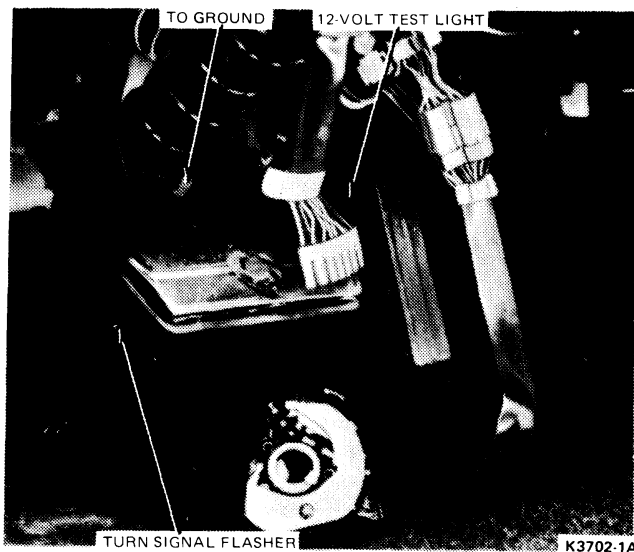

FIG. 2 Turn Signal Flasher Power Test
2. Connect 12-volt test light to a good ground (Fig. 2).
3. Contact probe of test light to the wire connection at the flasher as shown in Fig. 2 (Orange/yellow wire). If test light illuminates, power flow to flasher is good. If test light does not illuminate, power is disrupted between flasher and power source. Feed circuit must be repaired.